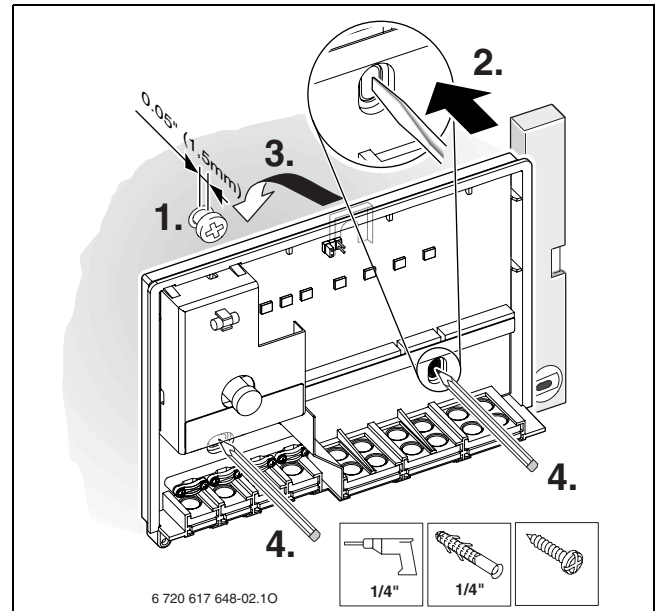

Fig. 7 Upper attachment screw
- ▶ For the upper attachment screw, drill a $\varnothing 1/4"$ (6 mm) hole, insert an appropriate wall anchor, and insert the screw until only $1/16"$ (1.5 mm) protrudes (→ Fig. 7).